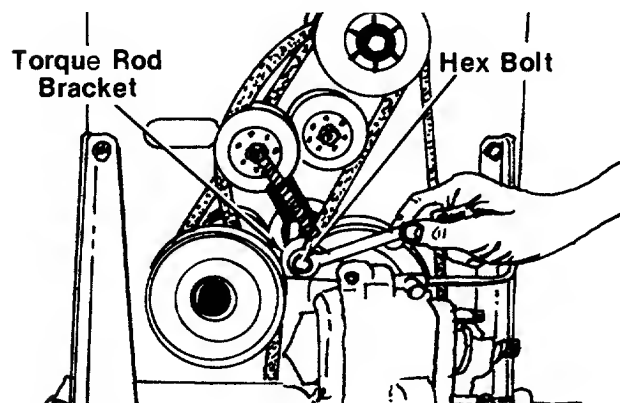

FIGURE 31.
7. Remove the hex bolt which holds the torque rod bracket to the torque rod, and remove bracket. See figure 31.